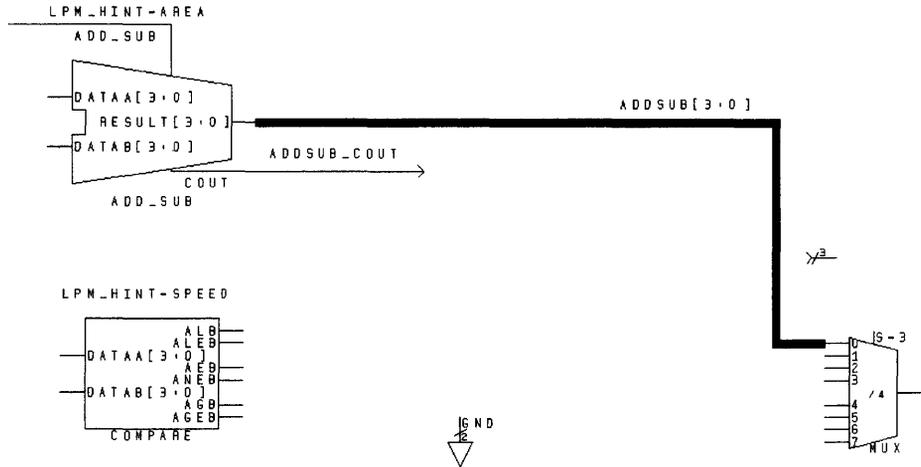

Figure 3-52 Connecting the mux to the comparator
- => Since you're using 4-bit buses, you'll need to use two bus connections in order to have all six of the comparator outputs available for selection by the mux. Beginning at input 1 of the mux, draw a bus in an L shape (see the zoomed-in view of the schematic in Figure 3-52) and terminate it at an end point by pressing the middle mouse button and then the right mouse button, or by pressing "**F3**" and then the right mouse button. Repeat this free-floating connection beginning at input 2 of the mux and ending, in an L shape, near the comparators' outputs. Click on a blank area of the schematic to deselect everything already selected. You again need to label the two buses you just drew. Clicking on a piece of the bus connected to mux input 1, press "1" on the keyboard, or choose *Label* from the *Add* pull-down menu, and type in **magb [3 : 0]**. Again, click on a blank area of the schematic to deselect everything already selected. Clicking on a piece of the bus connected to mux input 2, press "1" on the keyboard, or choose *Label* from the *Add* pull-down menu, and type in **maga [3 : 0]**.